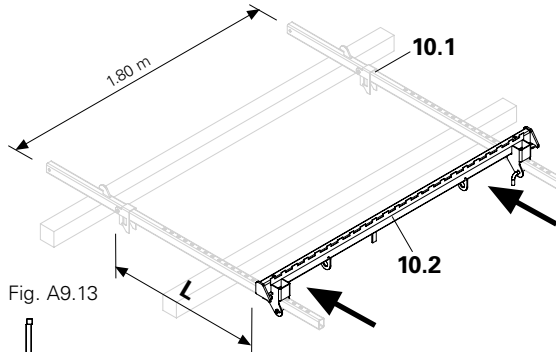

Fig. A9.13
2. Push the cross girder (10.2) onto both longitudinal beams and pin it in place (grid 5 cm). (Fig. A9.13/A9.14)
- Adjust the prop spacing (L) (see Installing the platform). (Fig. A9.13)